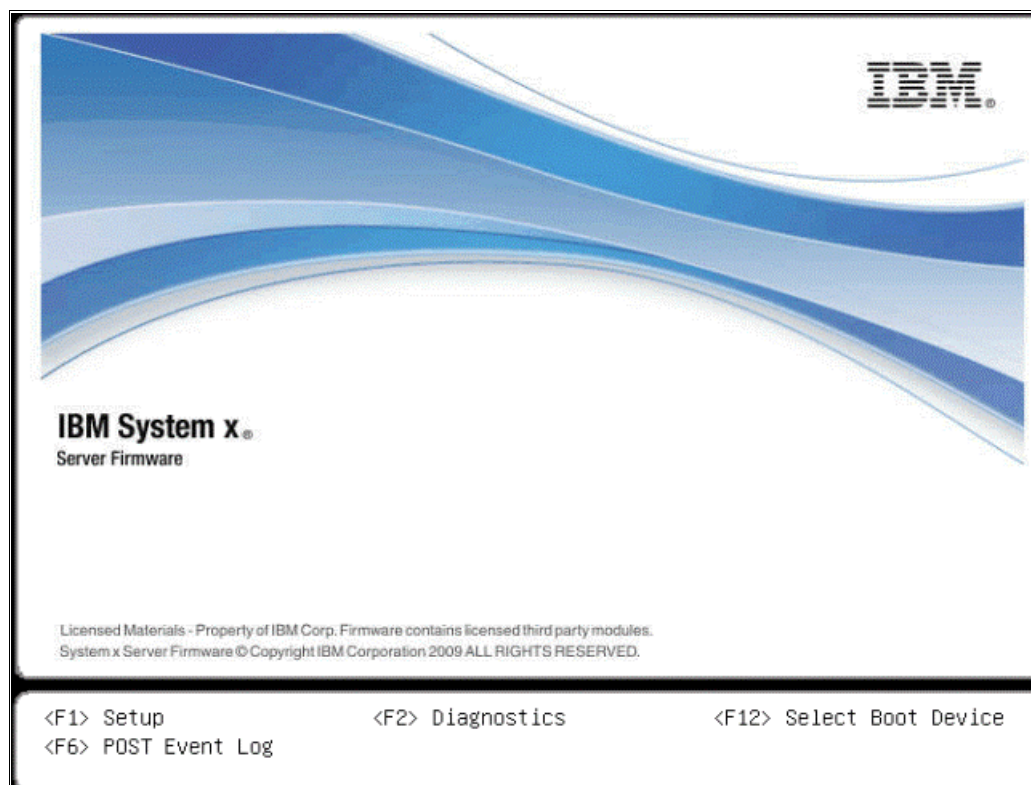
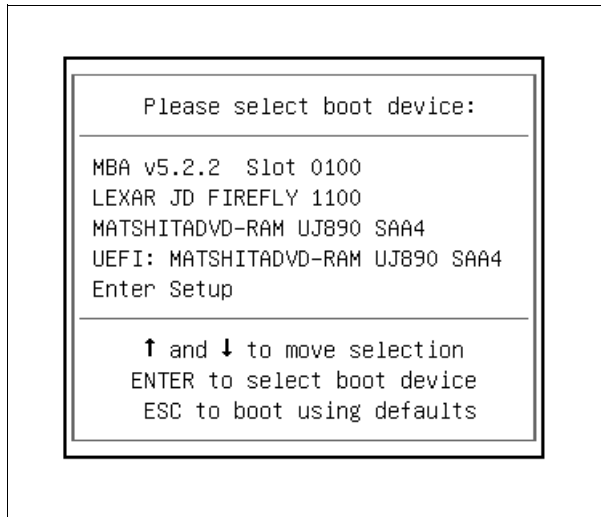

Figure 5-56 F12 to select Boot Device
Figure 5-57 Select DVD to install OS
14. Press F12 to select the boot device, then select the CD/DVD ROM (or appropriate source) to install the operating system, as shown in Figure 5-56 and Figure 5-57.